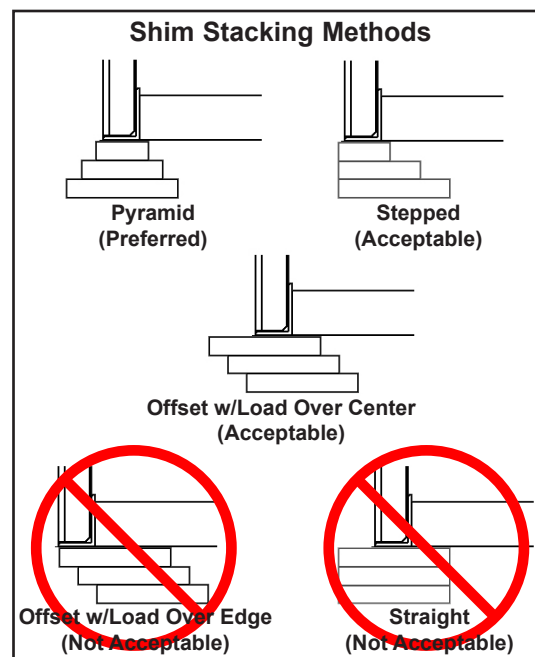

Figure 12
2. Using the results obtained in step 1, create the individual shim stacks on the pit floor at location (**B**). Build each shim stack (**M**) with the top shim having a minimum size of 4-1/2" x 4-1/2" (114.3 mm x 114.3 mm) and each successive lower shim being larger so the shims can be welded together using a fillet weld. If using offset method, make sure load is over center of shim stack, NOT over the edge. DO NOT use straight method. See Figure 12.